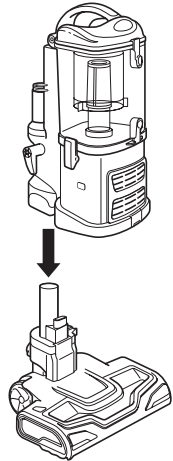

Fig. 3
- 2 Align the tube of the floor nozzle with the Lift-Away canister. Lower the canister until it clicks securely into place. **(Fig. 3)**